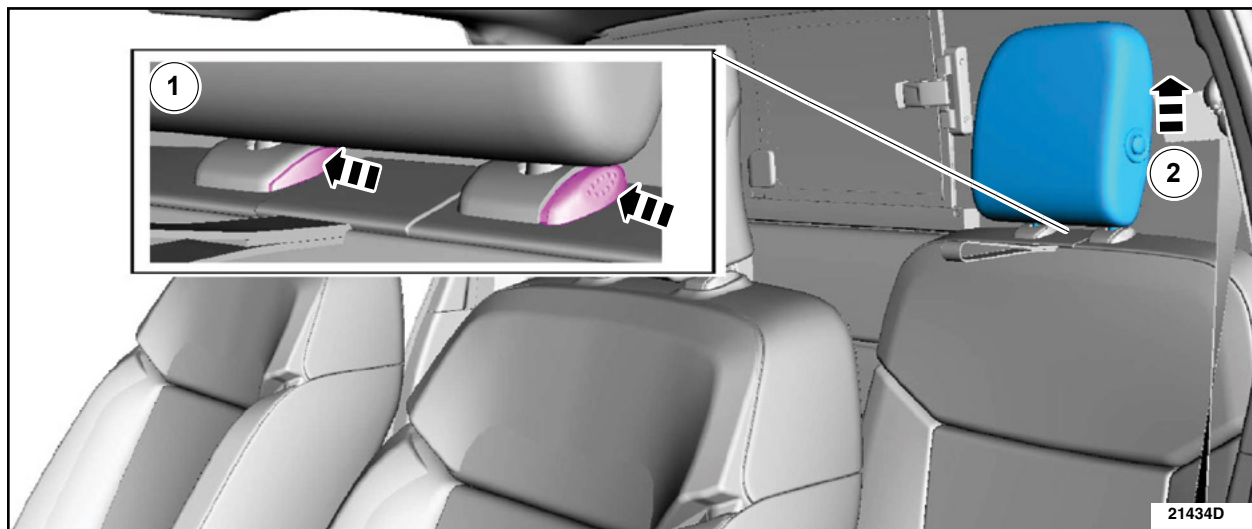

FIGURE 8
9. Press inward on the head restraint locks, then remove and discard both rear headrests. See Figure 8.
10. Install the new headrest by reversing the removal procedure See Figure 8.